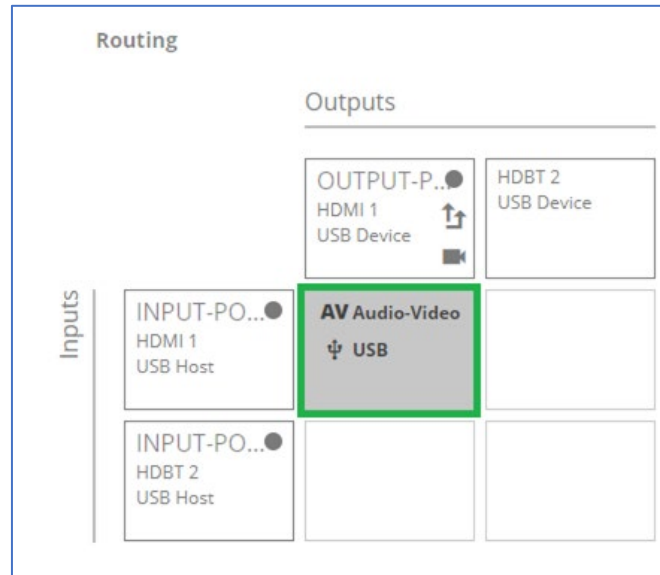
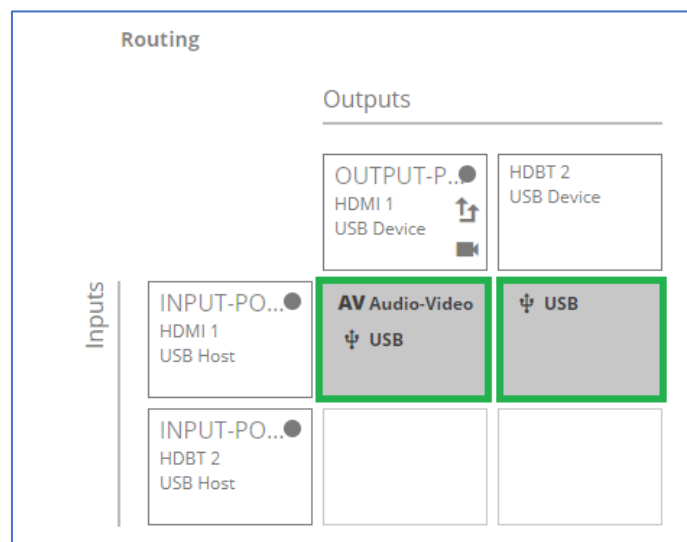

Figure 14: Selecting Local Active Host for Connection to Local USB Devices Only
Figure 15: Selecting Local Active Host for Connection to both Local and Remote USB Devices
Outputs: 1xHDBT, Mirrored 1xHDMI	Output Devices: 3xUSB-A (local) + Rx USB devices (remote)  USB local devices are always connected to active Host. Remote USB devices connection to local active Host is configurable (see Figure 14 & Figure 15).
Outputs: 1xHDMI	Output Devices: 3xUSB-A (local) + Tx USB devices (remote)  USB local devices are always connected to active Host. Remote USB devices connections to local active Host is configurable (see Figure 14 & Figure 15).
2. Click the Input/Output cross-point **HDMI 1USB Host** shown in (see Figure 14).
- Click the Input/Output cross-point **HDBT 2 USB Host** in addition to selected **HDMI 1USB Host** (see Figure 15).